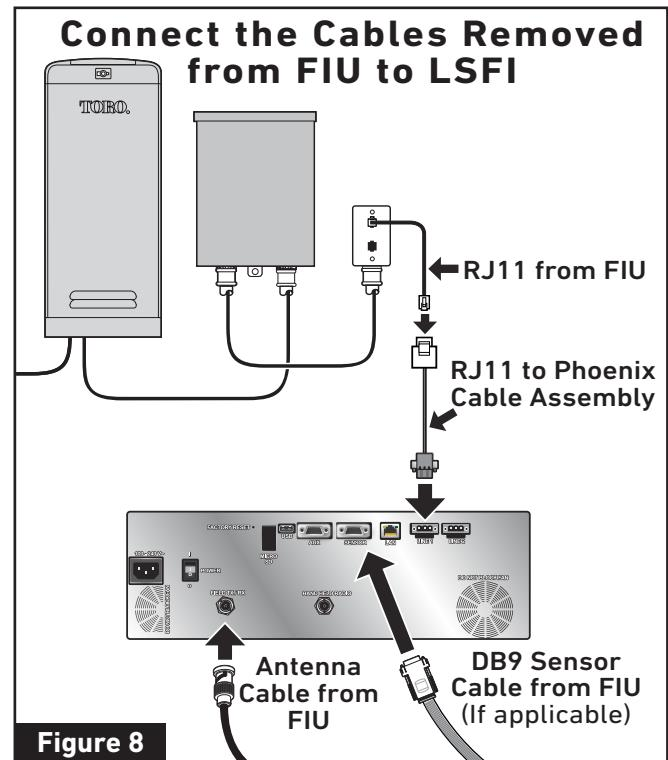

Figure 8
3. Install the RJ11 cable from the FIU to the provided RJ11 to Phoenix cable assembly. Connect the phoenix end of the assembly to the LSFI. See **Figure 8**.